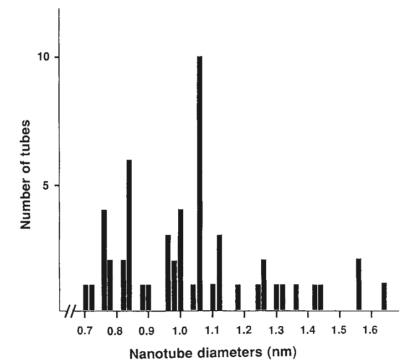

Figure 2
- Thinnest tube (1) with diameter of 0.75nm
- Attached to thicker, 13nm tube (2)
- Figure 2- Histogram of diameters of 60 tubules from 0.7nm to 1.6nm